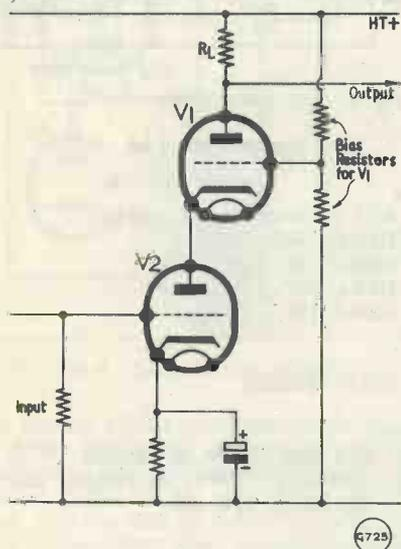

Fig. 6. Stabiliser section
V2 and V3 in the circuit of the stabiliser section shown in Fig. 6 are the two series control valves, connected in parallel. These types are the well known television line output valve, the Mullard EL81, ideally suited to this purpose. Parasitic "stopper" resistors are connected in the anode, screen-grid and control-grid circuits of each valve.
Although optional, the use of a 1mA moving coil meter is recommended and serves the dual function, when connected as shown in Fig. 6 of voltmeter (0-500V), and milliammeter (0-200mA), the appropriate scale being selected by means of  $S_3$ . This switch operates as meter scale selector, and is so connected that the h.t. voltage may be read, and adjusted prior to switching the h.t. on by means of  $S_2$ . In one position, the meter is connected in series with  $R_{21}$ , the meter multiplier, to read 500V full scale. When the other position is selected, the meter is connected in parallel with  $R_{25}$ , a 0.5Ω shunt resistor, and then reads 0-200mA full scale.
(1) The negative side of the supply and stabiliser should not be electrically connected to the chassis. Any existing earthed connections of this sort must be lifted off the chassis and carried by means of terminal strips in the same manner as the positive high tension leads. The only earthed link is taken from the wiper of  $S_4$  as indicated in Fig. 6. As mentioned earlier the earthed cans of the electrolytic capacitors,  $C_1$ ,  $C_2$ ,  $C_3$ ,  $C_4$  must be insulated accordingly, and the only permitted exception to this rule is the earth connection to the screen of the transformer which, being connected to the laminations in some makes of transformers, should be bonded to chassis.
(2) Parasitic stopper resistors  $R_8$ ,  $R_9$ ,  $R_{10}$ ,  $R_{11}$ ,  $R_{12}$ , and  $R_{13}$ , should in each case be mounted close to the appropriate valve pin. Because the EL81 valve has a top cap anode connection, stoppers  $R_9$  and  $R_{11}$  can be soldered directly to the top cap connectors at one end, the wire downloads being taken from the other ends of the resistors.
(3) The series-connected electrolytics, which may have to be added as replacements in some existing power supplies, should be mounted clear of the rectifier and series valves, which tend to operate at a fairly high temperature. Enlarging on this theme it is important to ensure that the entire unit is adequately ventilated, since it has to dissipate up to about 100 watts or so.